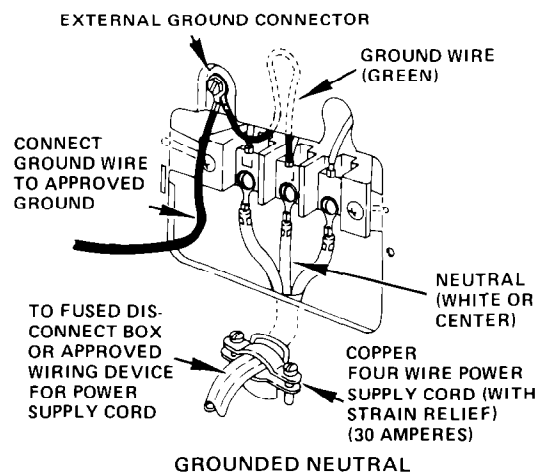

Figure 7
2. Disconnect the green grounding wire (ring terminal end) from the terminal block and connect to the external ground connector. (see Figure 7).
3. Connect the neutral wire of the power supply cord to the center terminal of the terminal block and connect the other wires to the outer terminals (see Figure 7).